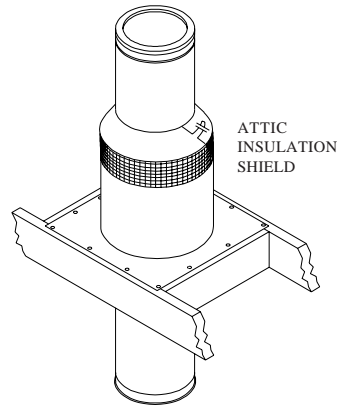

**Fig 9**
8. **Assemble Chimney Sections:** Lower the female end of the first Chimney Section in the Support Box (Fig 9). Sheet metal screws are not required between the first Chimney Section and the Support Box. For each additional Chimney Section use the (6) Sheet metal screws provided to make a secure connection between the chimney sections (Fig 9). Do not penetrate the inner liner of the chimney.